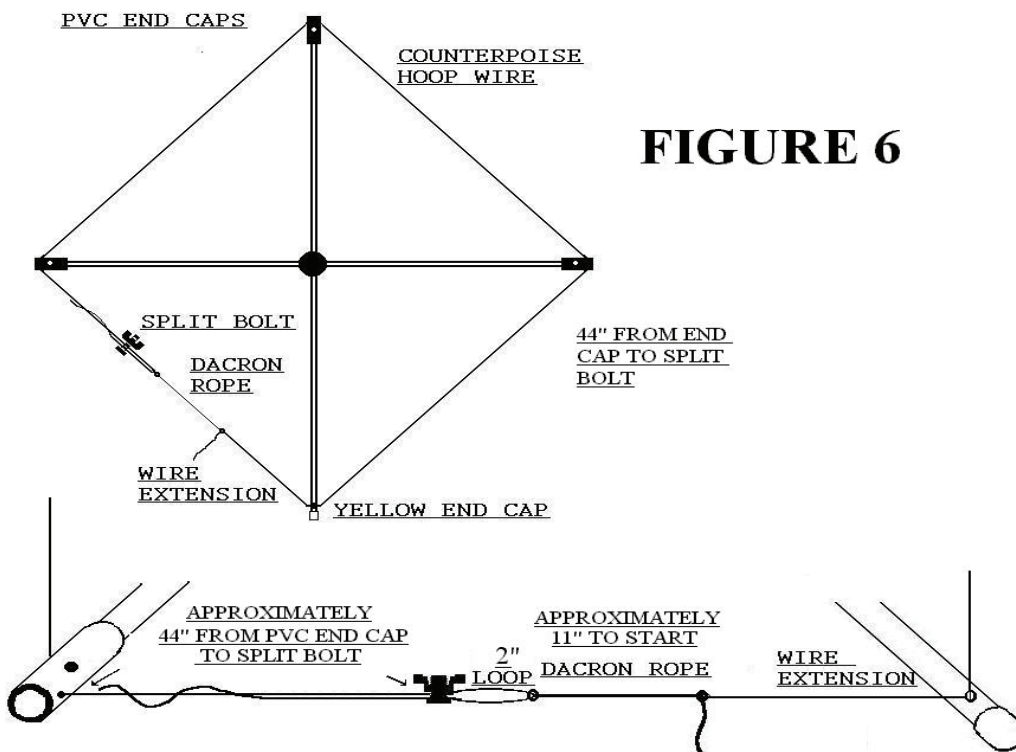

FIGURE 6
5.2 COUNTERPOISE ASSEMBLY see figure 6
F) Take the ring terminal from the Counterpoise Hoop wire and one terminal from the wire extension. Place both terminals over the drill hole at the end of the 80" counterpoise rod that has the yellow end cap and is attached to the aluminum tube on the Counterpoise bracket. see figure 6. Insert a screw attaching these terminals to the Counterpoise rod.